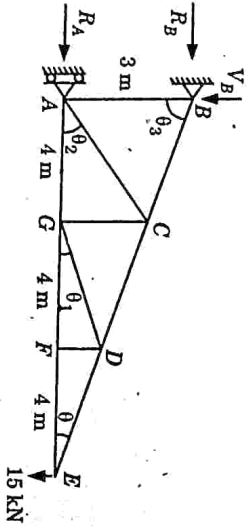

Fig. 2.
- From  $\Delta AEB$  (Fig. 2),  $\tan \theta = 3/12$
- From geometry of Fig. 2,  $\theta = \theta_1 = 14.03^\circ$
- i. From  $\triangle ABE$  and  $\triangle GCE$  (Fig. 2),
- i. From  $\triangle ABE$  (Fig. 2),  $\theta_3 = 90^\circ - 14.03^\circ = 75.97^\circ$